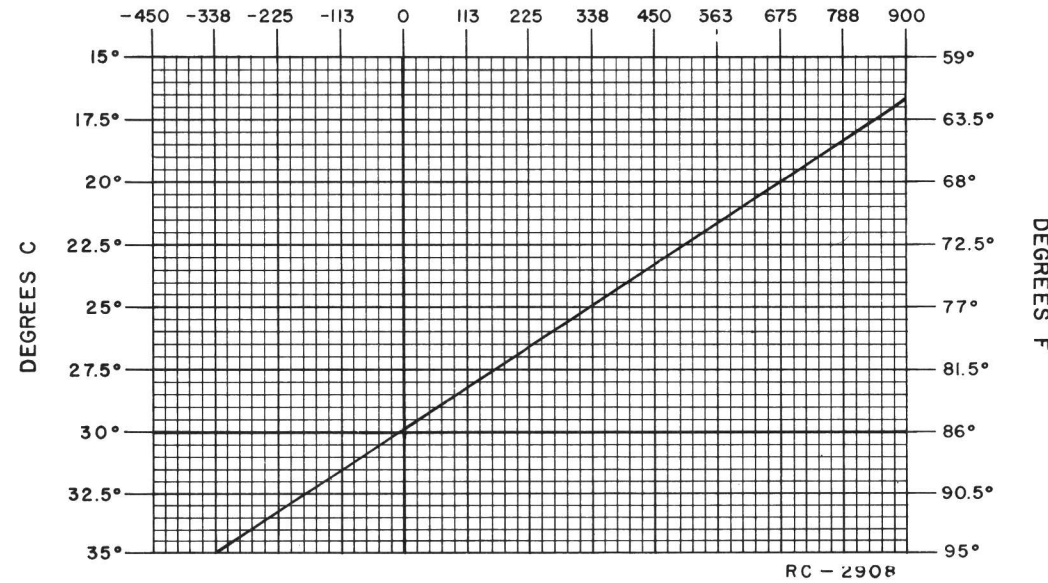

Figure 4 - Frequency Offset Chart
2. Maintain the radio at 30°C (+5°C, -15°C) offset the operating frequency as a function of actual temperature, by the amount shown in Figure 4.